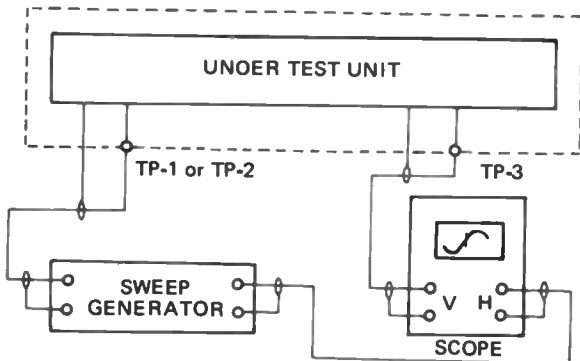

FIGURE 5
- Step 1: Connect instruments as shown in Fig. 5.